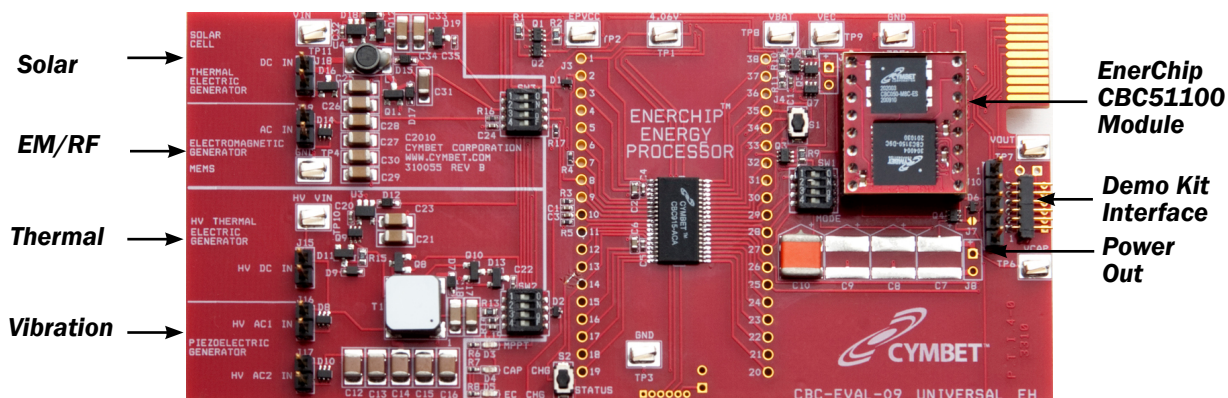

Figure 1: CBC-EVAL-09 Demo Kit - 5 x 2 inches
CBC-EVAL-09 is a universal energy harvesting (EH) evaluation kit that combines any one of multiple EH transducers with the EnerChip™ EP CBC915 Energy Processor and the EnerChip CBC51100 100uAh solid state battery module that has two 50uAh EnerChip solid state batteries connected in parallel. The purpose of this evaluation platform is to enable designers to quickly develop Energy Harvesting applications. The EVAL-09 ships with a solar cell for initial evaluation kit testing. A photo of CBC-EVAL-09 board is shown in Figure 1.